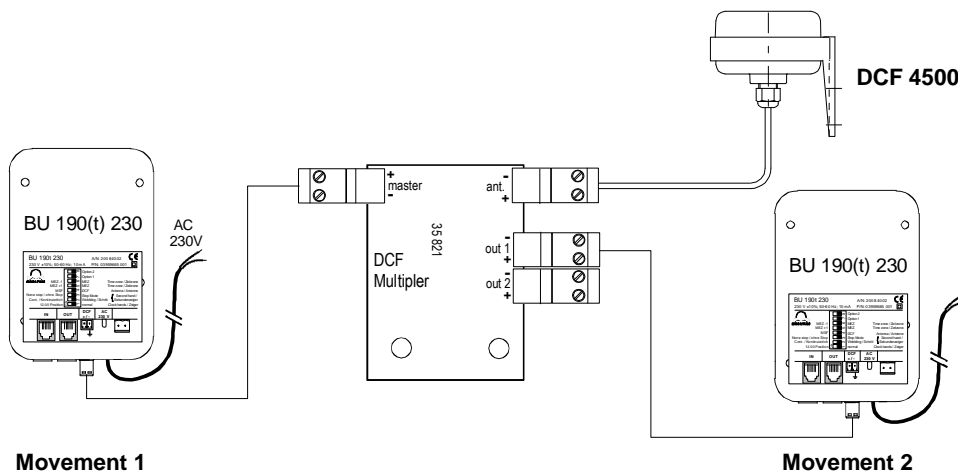

Fig. 11
- Possibility 1: The radio signal can be distributed on both movements with a DCF multiplier (Art.No. 35 821) (Fig. 11).